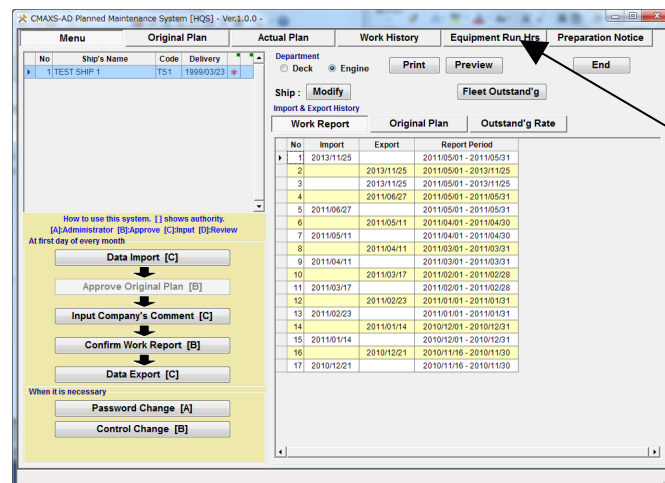

Fig.10-1 Menu Screen
- (1) On the "Menu Screen"(Fig.10-1), select [Equipment Run Hrs] tab.